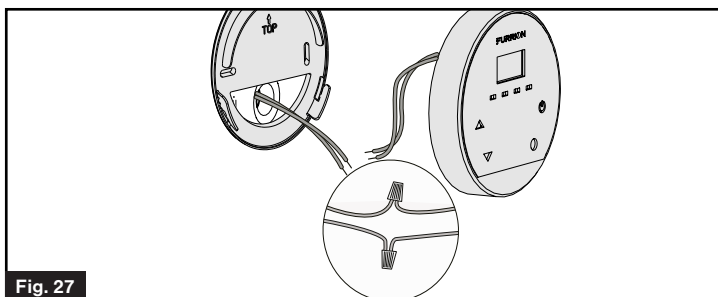

Fig. 27
2. Connect the two blue wires of the wall controller to the appliance directly or with the wall extension wires referenced in Fig 12. (Wall controller wires are blue, and polarity does not matter.) (Fig. 27)